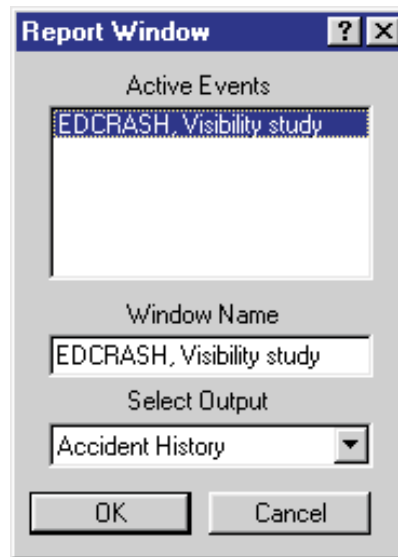

Figure 5-14 Report Window Information dialog, showing the name of the event(s) in the current case.
- Click *Add New Object*. The Report Window Information dialog is displayed, as shown in Figure 5-14, and includes a list of the active events (*EDCRASH, Visibility Study* is the only event in this tutorial). The Report Window Information dialog also includes the user-editable *Report Window Name* text field and *Selected Output* option list.